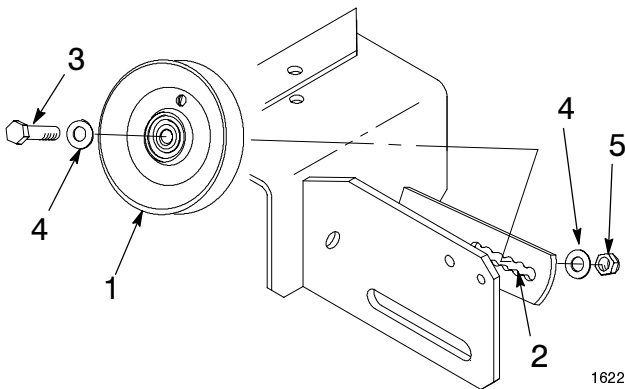

Figure 1
1. Remove “V” idler pulley from idler support assembly that came with the snowthrower. (Fig. 1). Transfer the “V” idler pulley onto the new idler support assembly using same hardware (Fig. 1) mounting it in same manner as removed.